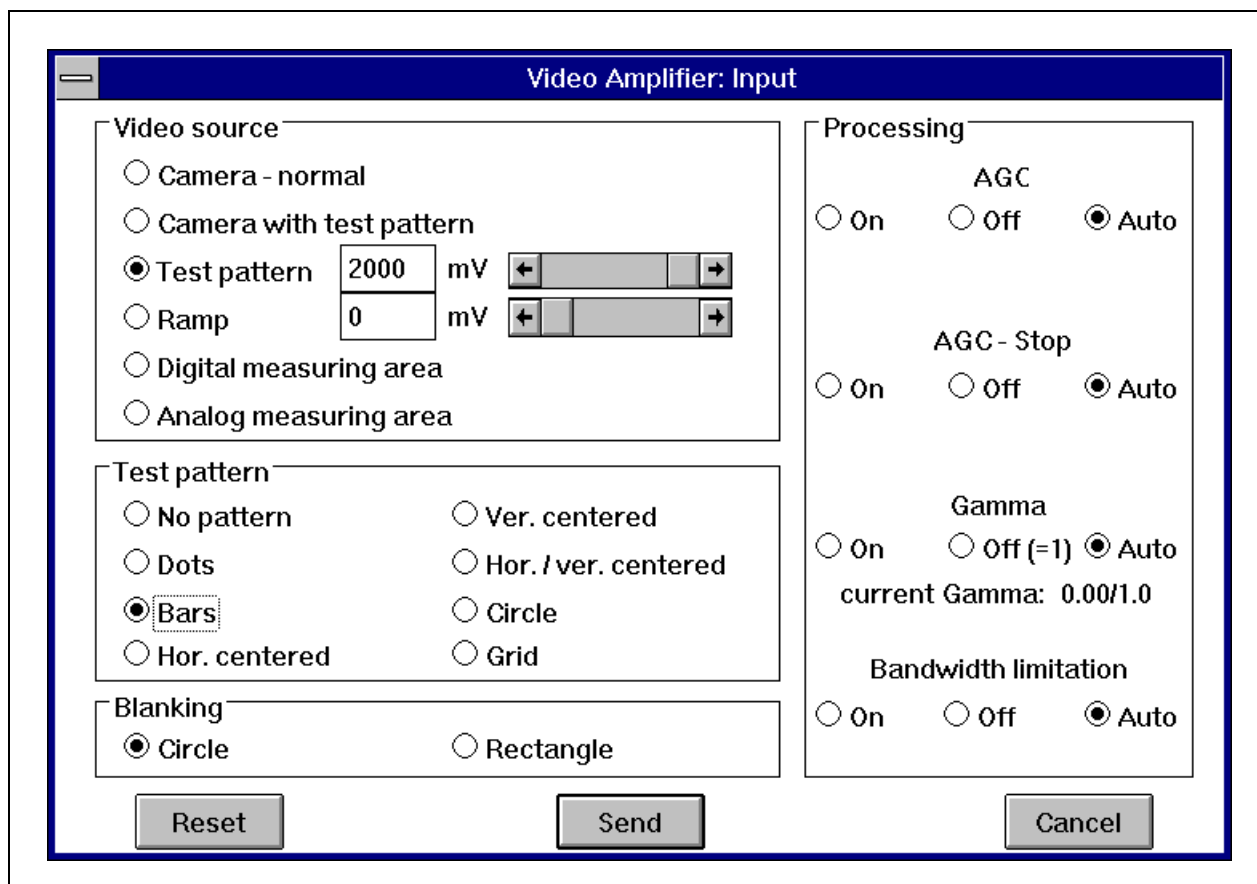

Fig. 9
- Call <Videoamplifier:Input and Processing> under <Diagnostic> (Fig. 9).